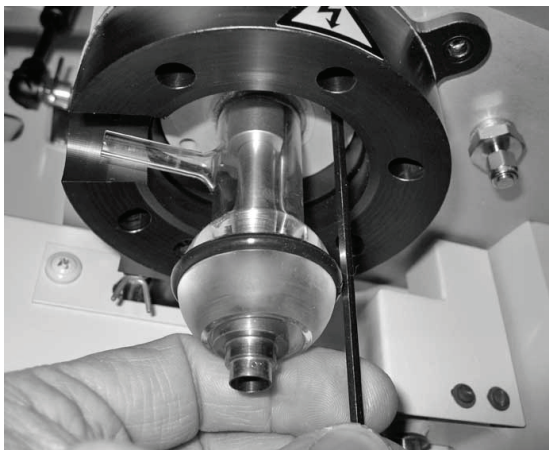

Figure 49 Removing the furnace upper ball joint
4. Use a long-handled Allen key to loosen the four screws securing the furnace upper ball joint and then carefully remove it (Figure 49).